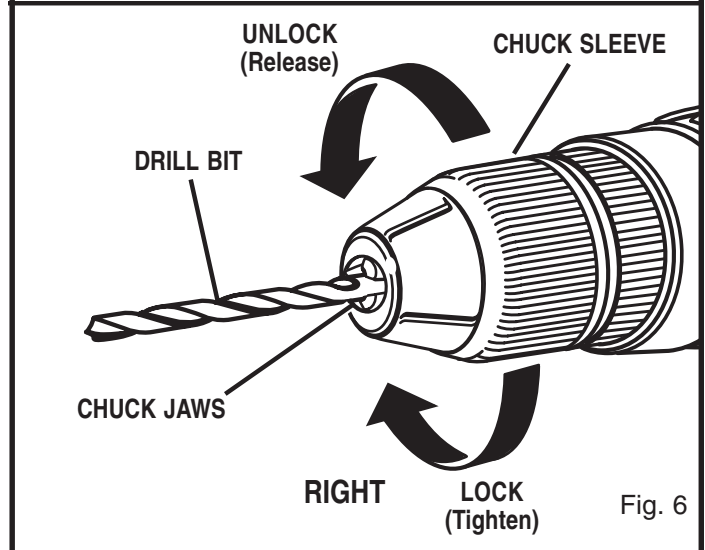

Fig. 6
See Figure 6.
- Insert drill bit straight into chuck the full length of the jaws as shown in figure 6.